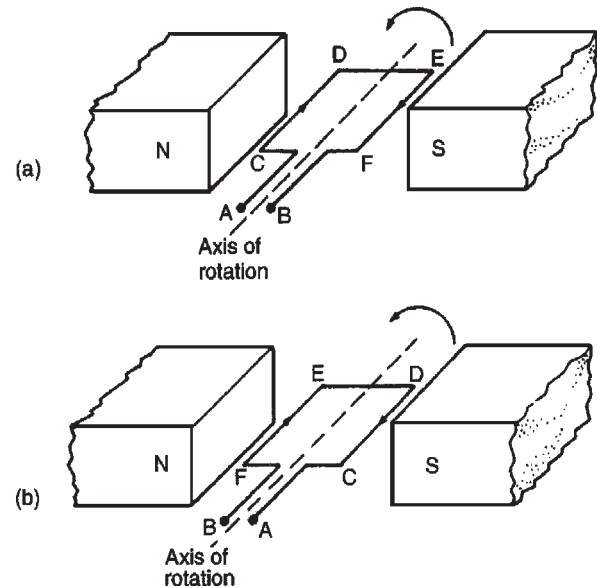

Figure 25.1
In an electric motor, conductors rotate in a uniform magnetic field. A single-loop conductor mounted between permanent magnets is shown in Fig. 25.1. A voltage is applied at points A and B in Fig. 25.1(a).
A force, F , acts on the loop due to the interaction of the magnetic field of the permanent magnets and the magnetic field created by the current flowing in the loop. This force is proportional to the flux density, B , the current flowing, I , and the effective length of the conductor, l , i.e. $F = BIl$. The force is made up of two parts, one acting vertically downwards due to the current flowing from C to D and the other acting vertically upwards due to the current flowing from E to F (from Fleming's left-hand rule). If the loop is free to rotate, then when it has rotated through 180° , the conductors are as shown in Fig. 25.1(b). For rotation to continue in the same direction, it is necessary for the current flow to be as shown in Fig. 25.1(b), i.e. from D to C and from F to E. This apparent reversal in the direction of current flow is achieved by a process called **commutation**.
- (iii) **field windings**, i.e. many turns of a conductor wound round the pole core; current passing through this conductor creates an electromagnet (rather than the permanent magnets shown in Figs 25.1 and 25.2),